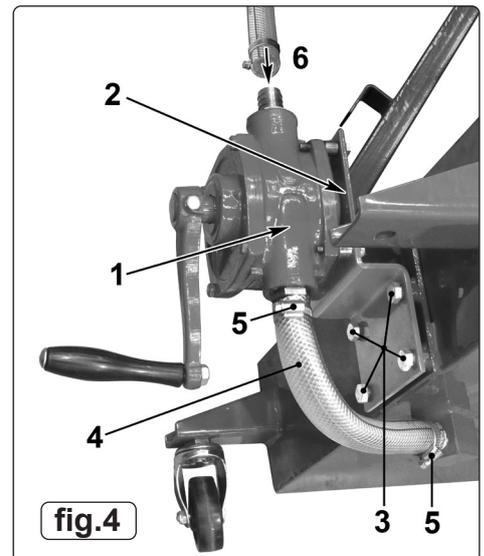

fig.4
- 4.4. **PUMP (AK467DXP only) fig.4** The pump (1) comes attached to the pump bracket (2). Attach the pump bracket to the castor end of the oil drainer in the position indicated above using the four M8 x 16mm bolts (3) provided. Each bolt must have a split lock washer under the head and should be tightened using a 14mm spanner.
- 5.3.2. **MANUAL PUMP DISCHARGE (AK467DXP)** Attach the discharge hose (see fig.4) to the outlet connection on the top of the pump and secure it with the worm drive clip provided. Place the other end of the pipe into a suitable container and proceed to turn the pump handle clockwise until empty.